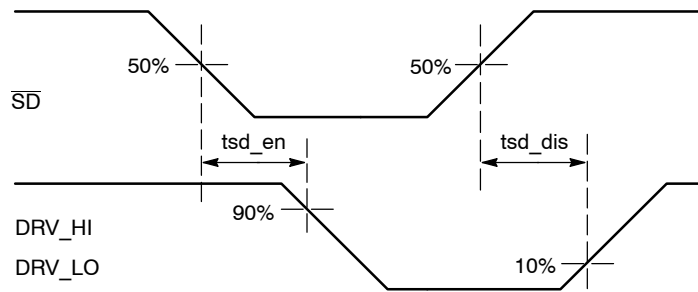

**Figure 5. Timing Definitions**
6. Timing diagram definition see: Figure 4, Figure 5 and Figure 6.